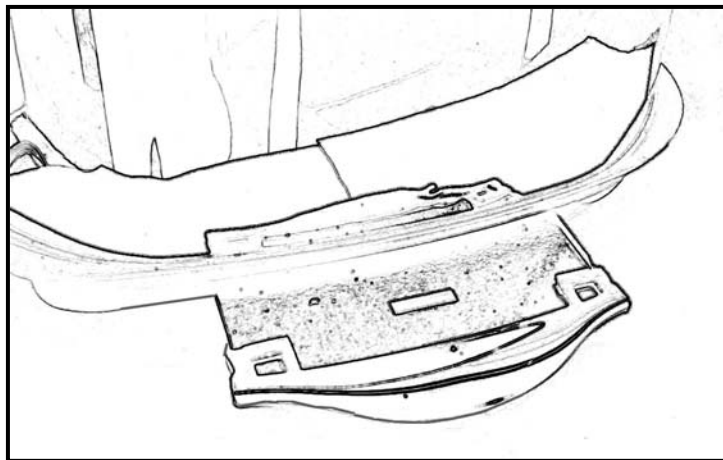

Fig. 2
2. Gently grip the Removable Crumb Tray (11) and slide out from under the toaster. (Fig. 2)
3. Dispose of the crumbs, wipe out the remaining crumb from the Removable Crumb Tray (11) with a mild dishwashing detergent. Dry thoroughly before replacing the removable Crumb Tray (11) back into the toaster.
4. Gently slide the Removable Crumb Tray (11) back into its place.
**Note:** Never operate the toaster without the Removable Crumb Tray (11) in place. Do not cover the Removable Crumb Tray (11) or any other part of the toaster with foil. To avoid damage to the toaster heating elements, **NEVER** use any pointed or sharp utensils for cleaning the inside of the toaster. Empty the Removable Crumb Tray (11) periodically.